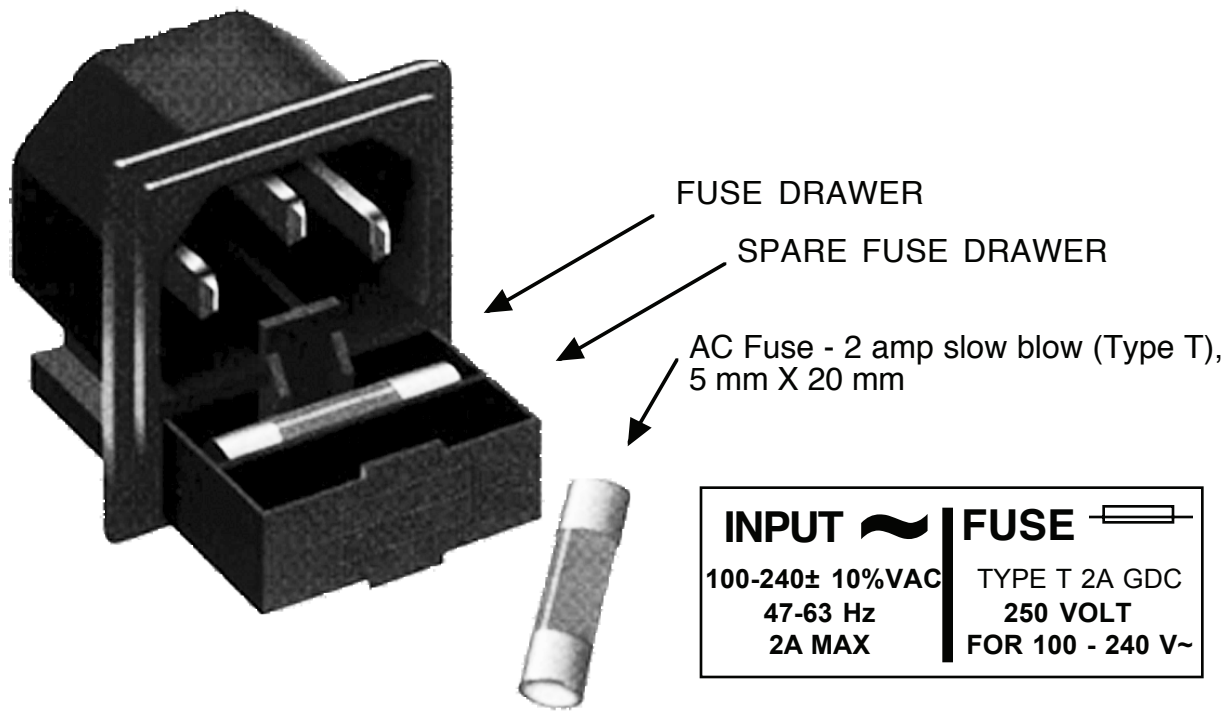

FIGURE 2.5 Fuse Location and Spare Fuse
- 8.) **AC Fuse** - The fuse is a 5 mm X 20 mm, 2 amp slow blow (Type T) and is inserted in the far slot in the drawer below the AC input as shown in Figure 2.5. There is a spare fuse in the near slot. If a fuse continues to open, the power supply is most likely defective.